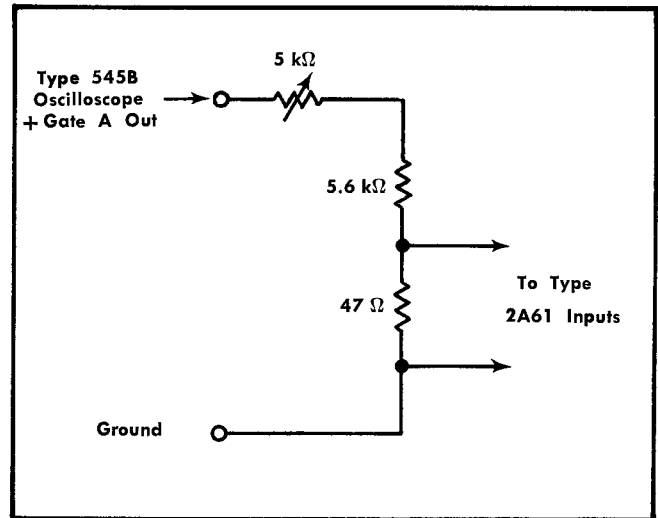

Fig. 5-3. Diagram of suggested + Gate Attenuator.
- c. Connect the special gate attenuator suggested in Fig. 5-3 between the + Gate A and Gnd on the test oscilloscope.